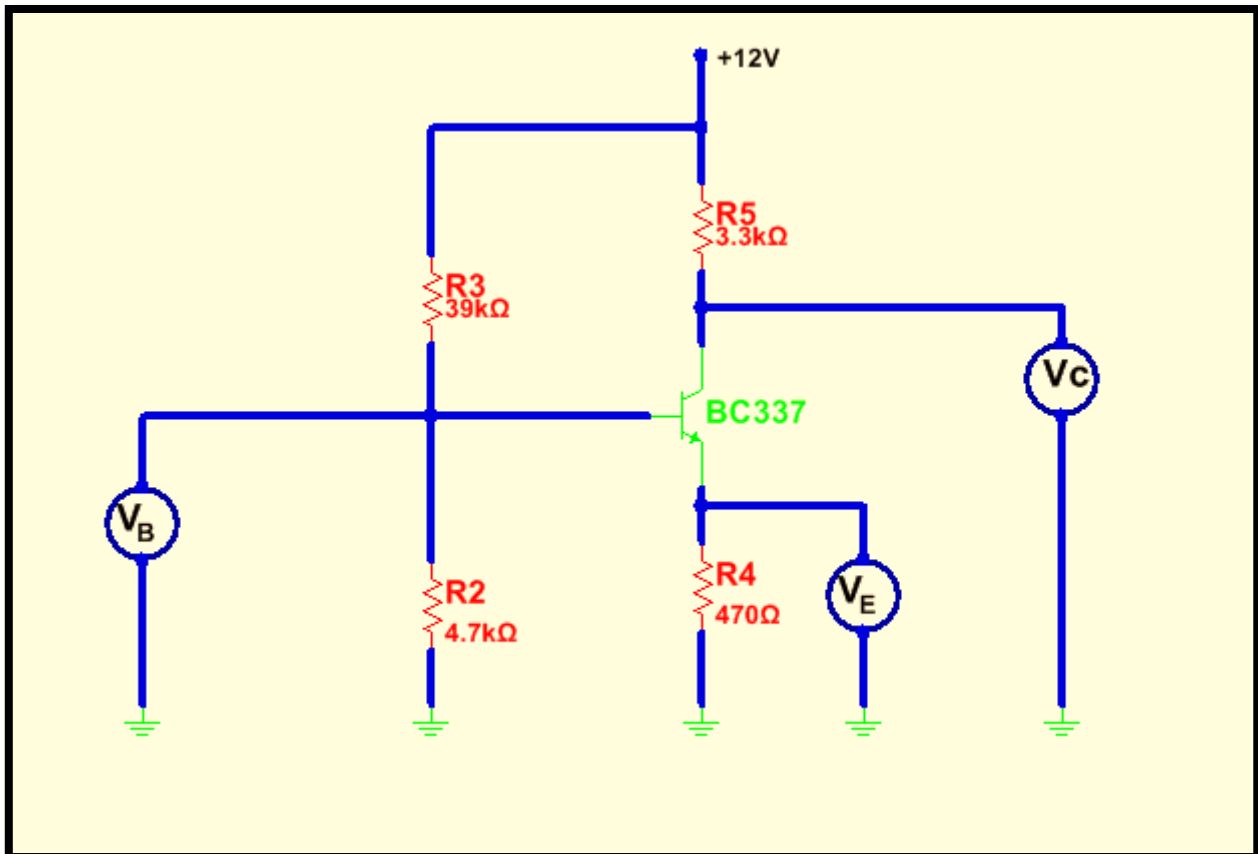

Figure 4: Practical Voltage-Divider Transistor Bias Circuit
5. Connect the voltage-divider bias circuit shown in Fig.4. (use npn transistor in (M100)).